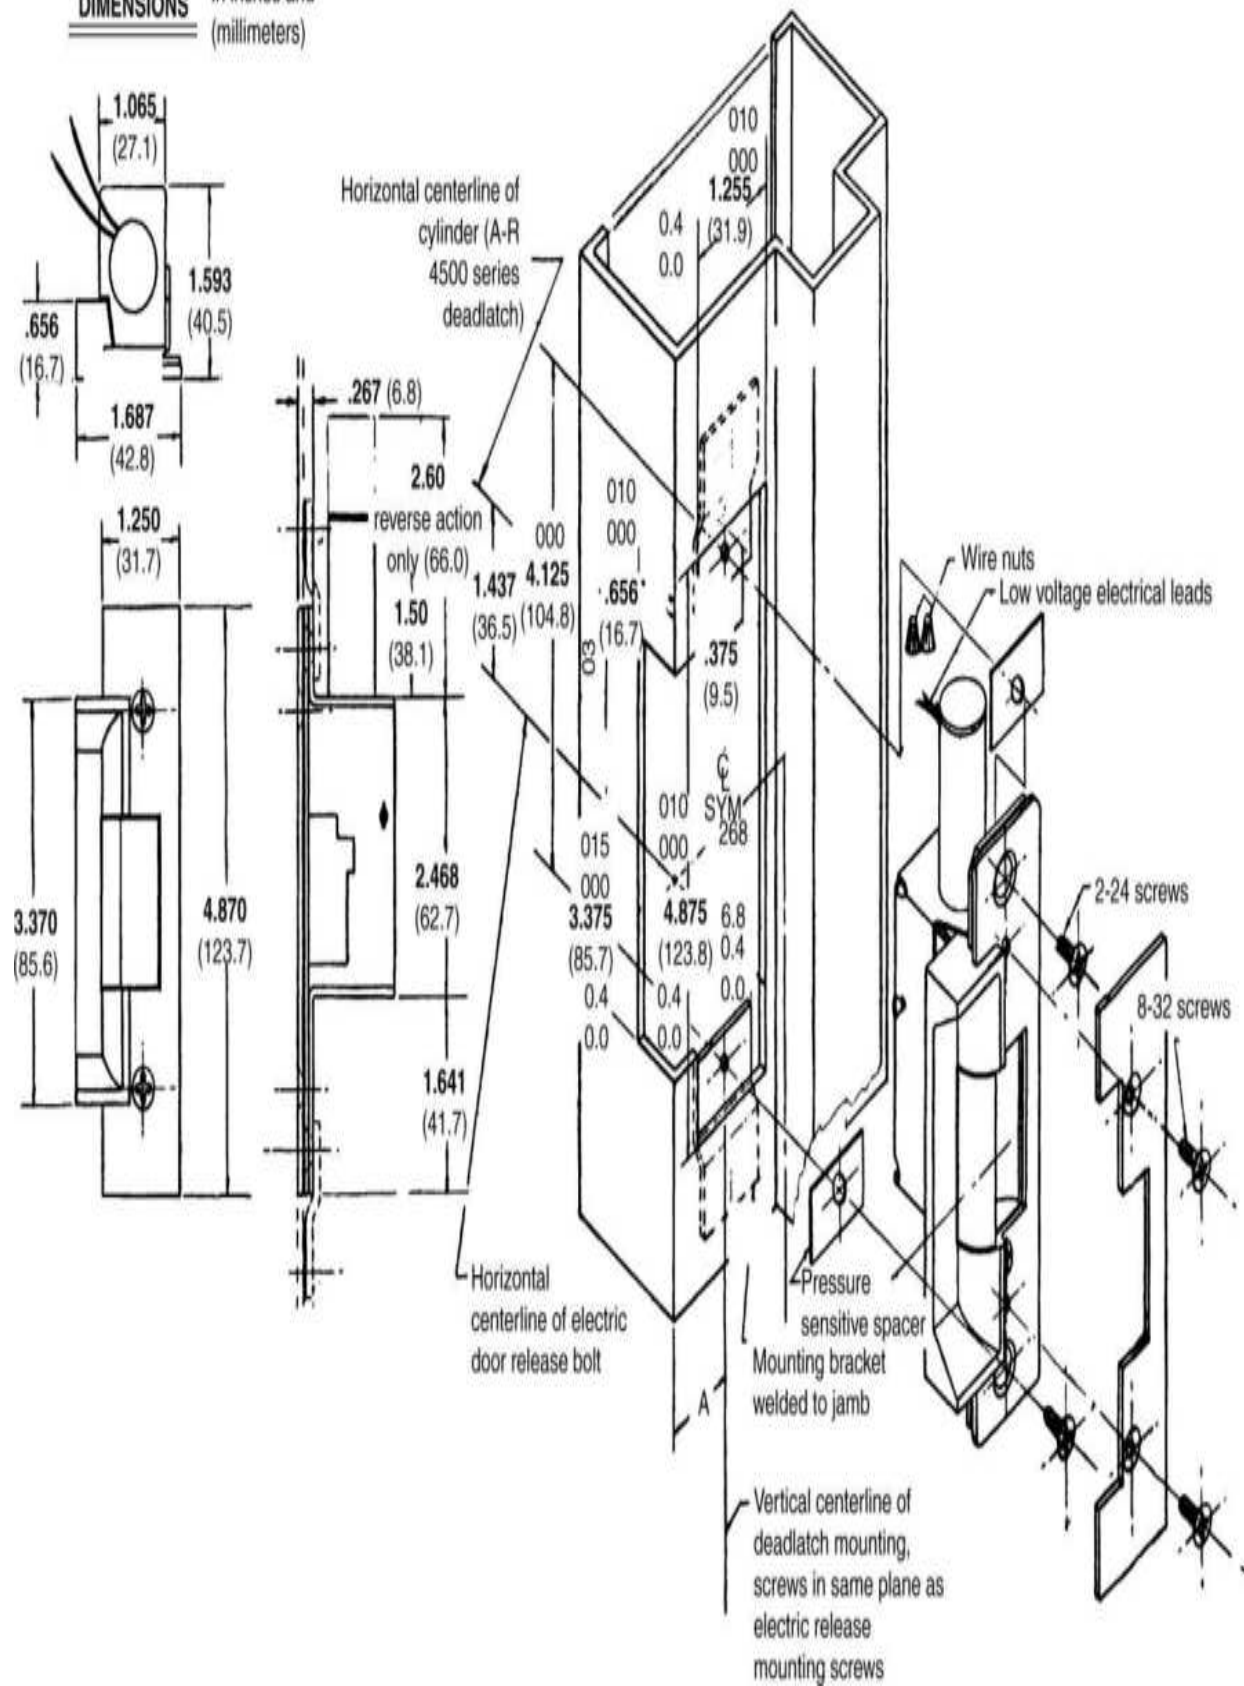

**Figure 19.4** Jamb preparation and dimension data for a metal frame that has a molded strip down the frame center. (*Adams Rite Mfg. Co.*)
1. Prepare the metal jamb to the dimensions shown in Fig. 19.4.